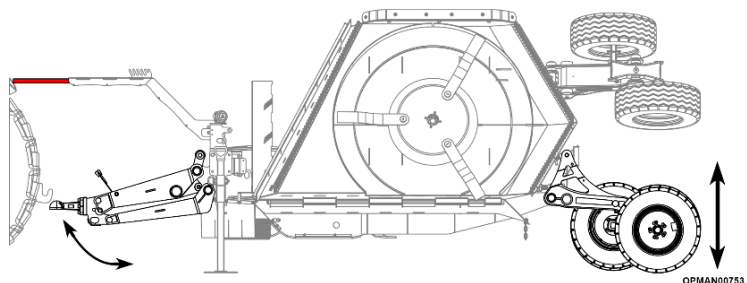

Figure 4.7 – Towing Eye Height Adjustment
- 4.4.2.4 Adjust the height of the centre axle using the tractors hydraulic control levers/buttons until the same height is achieved between the towing eye and clevis hitch of the tractor; see Figure 4.7.
- 4.4.2.13 For tractors fitted with a fixed pick-up hitch, adjust the centre deck height via the tractor hydraulics so the stand can be fixed at the correct height with the securing pin; see Figure 4.7.